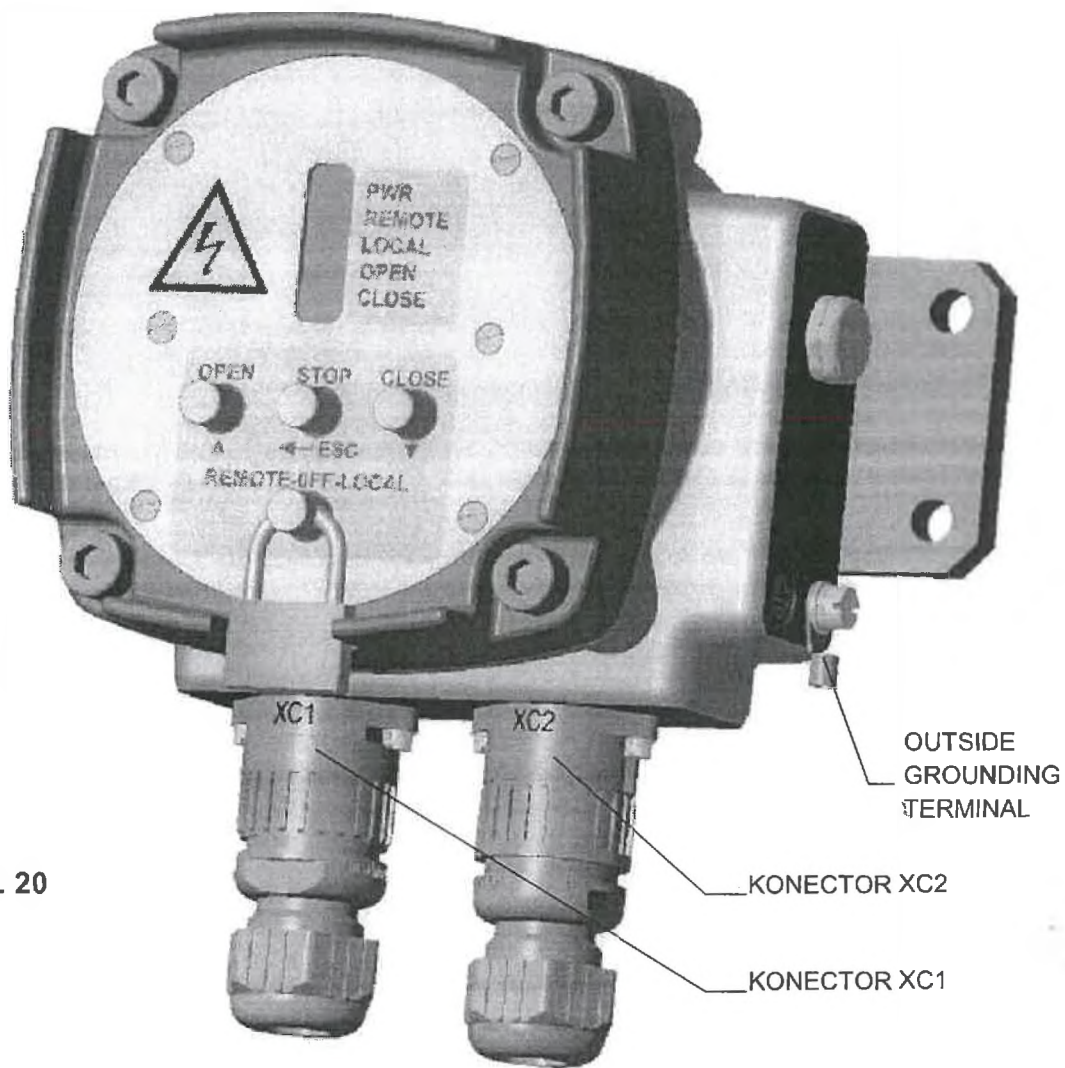

Fig. 20
An external local control (Fig. 20) used for the Regada EA local electric control in the case of additional equipment, or in cases where it is not possible to use the EA in a local control design directly.
- the electrical connection is made using the XC1 and XC2 connectors (fig. 20). A cable with a diameter of 6 to 12 mm, with a max. cross-section for the conductor of 2.5 mm² is led and connected to the attached connector. The connection of the lead-in cables and the assembly of components of the connectors is shown on the packaging of the enclosed connectors. The wires are connected to the connector by a screw connection according to the specific wiring diagram, the number of which, as well as the supply voltage, is indicated on the label located on the local control. There is no need to enter the internal part of the local control. When dismantling the covers of the local control, there is a risk of tearing off the connecting wires if handled carelessly. During disassembly, it is necessary to switch off the power supply voltage and disconnect the XC1 and XC2 connectors.
The local control is also equipped with an external grounding terminal (fig. 20) by means of which the device needs to be earthed.